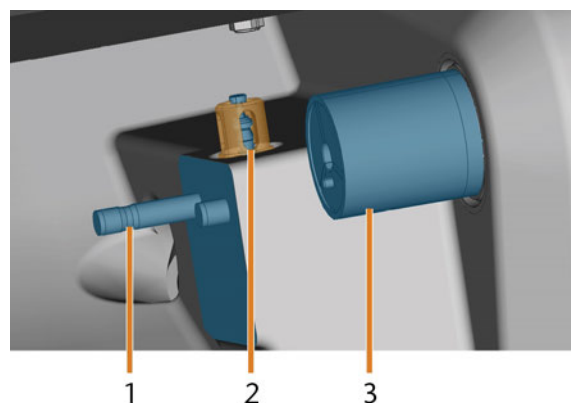

FIG. 66 – TOOL MAGAZINE HOLDER, MEASURING KEY, BLOCK HOLDER (IN BLUE)
4. Clean the measuring key with the wet brush (↗ Fig. 66 – see below).